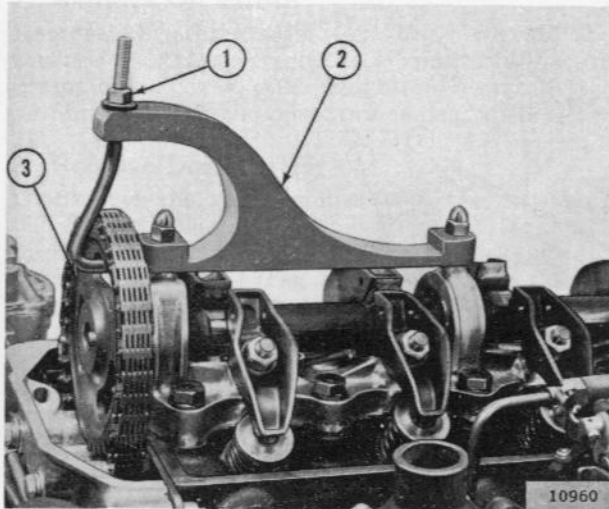

FIG. 76—CAMSHAFT SPROCKET REMOVAL AND INSTALLATION TOOL INSTALLED ON ENGINE
b. Install the camshaft sprocket removal and installation tool W-268 on the rocker arm cover studs as shown in Fig. 76. Fasten with the rocker arm cover nuts. Install the hook of the removal tool in the sprocket and tighten the nut to relieve the tension on the camshaft.
d. Pull forward on the camshaft sprocket to remove it from the pilot on the camshaft. With the sprocket still engaged in the timing chain, release the tension on the sprocket removal tool by loosening the nut (1, Fig. 76). Gently allow the sprocket to rest on the bosses in the timing chain cover.
b. Install the camshaft sprocket removal and installation tool W-268 on the rocker arm cover studs of the cam bearing support deck as shown in Fig. 76. Install the hook of the removal tool (2) in the sprocket (3) and tighten the nut (1) to relieve the tension on the camshaft.